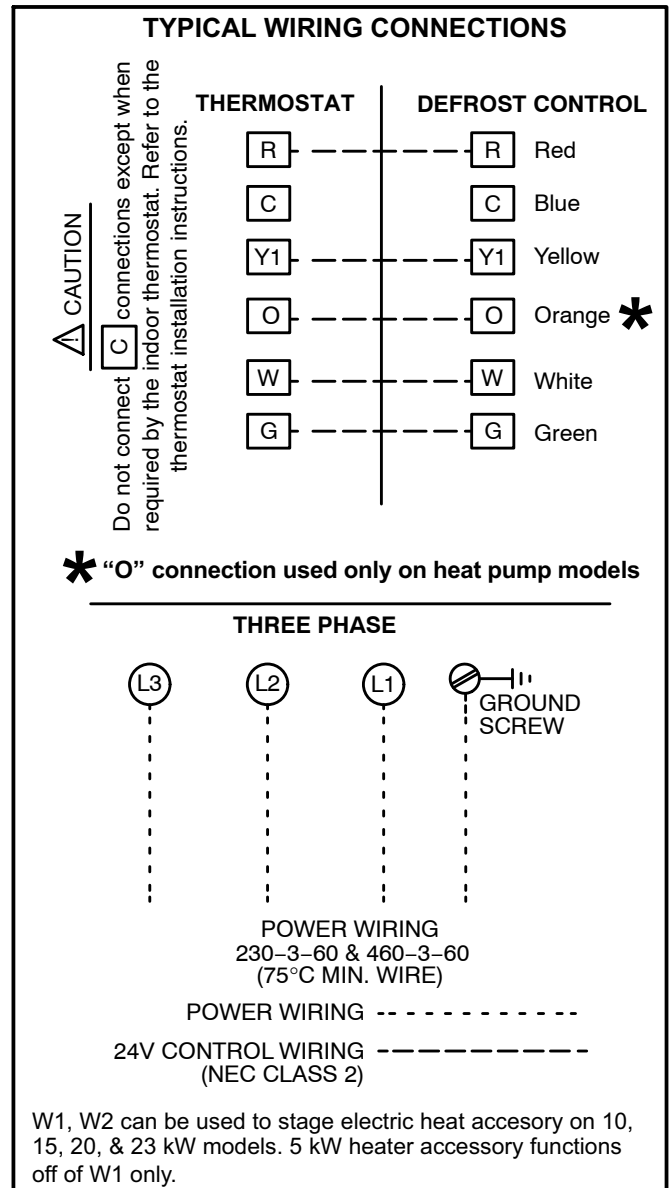

FIGURE 6
- 3- Connect thermostat wiring to leads in control panel. Wire as shown in figure 6 for electro-mechanical and electronic thermostats.